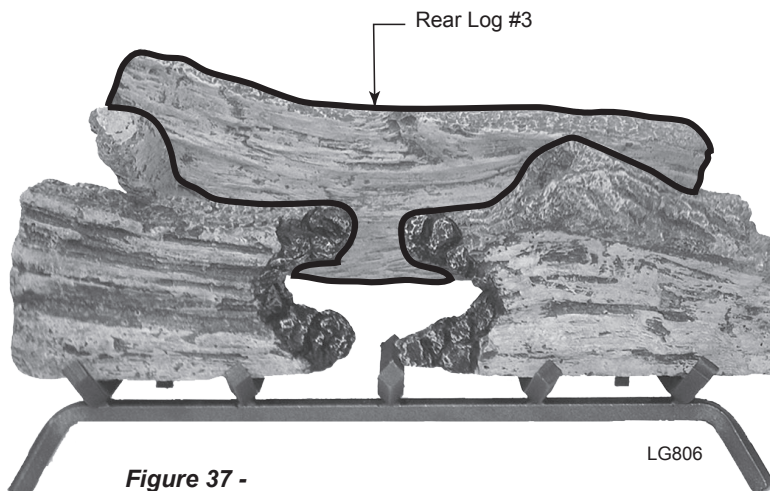

Figure 37 -
4. Fit cutout in the bottom left of Rear Log #3 over the back end of Log #2. Rest right end of Log #3 on rear grate bar. *Figure 37*